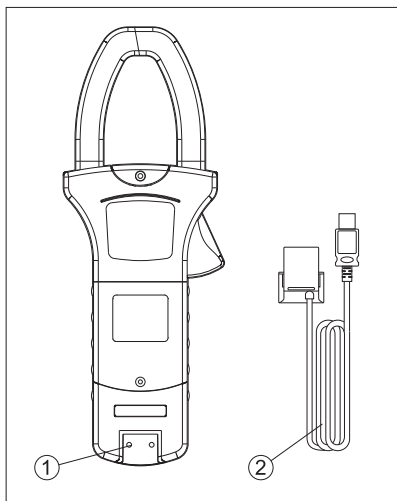

Figure 2
B.The Meter Back and Bottom Structure (see figure 2)